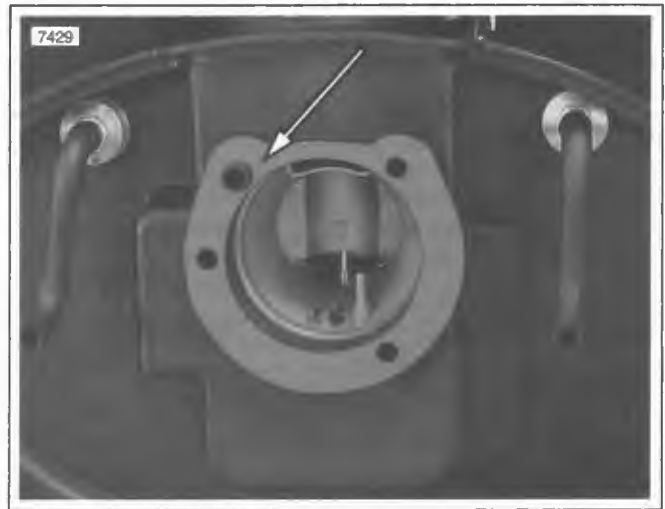

Figure 1-50. Gasket Installation
1. See Figure 1-50. Position **new** gasket on backplate.